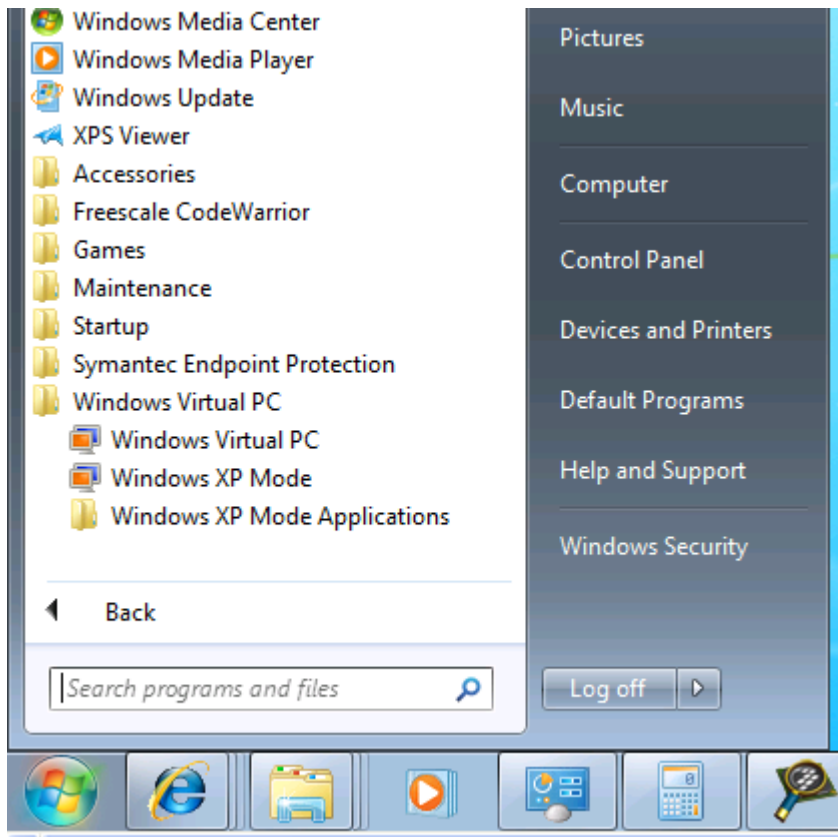

Figure 3.
- 1> Run Windows virtual PC to have Windows XP mode running first, click Start button  in Windows 7, click All Programs, then click Windows Virtual PC, click Windows XP Mode. Shown as following in Figure 3.